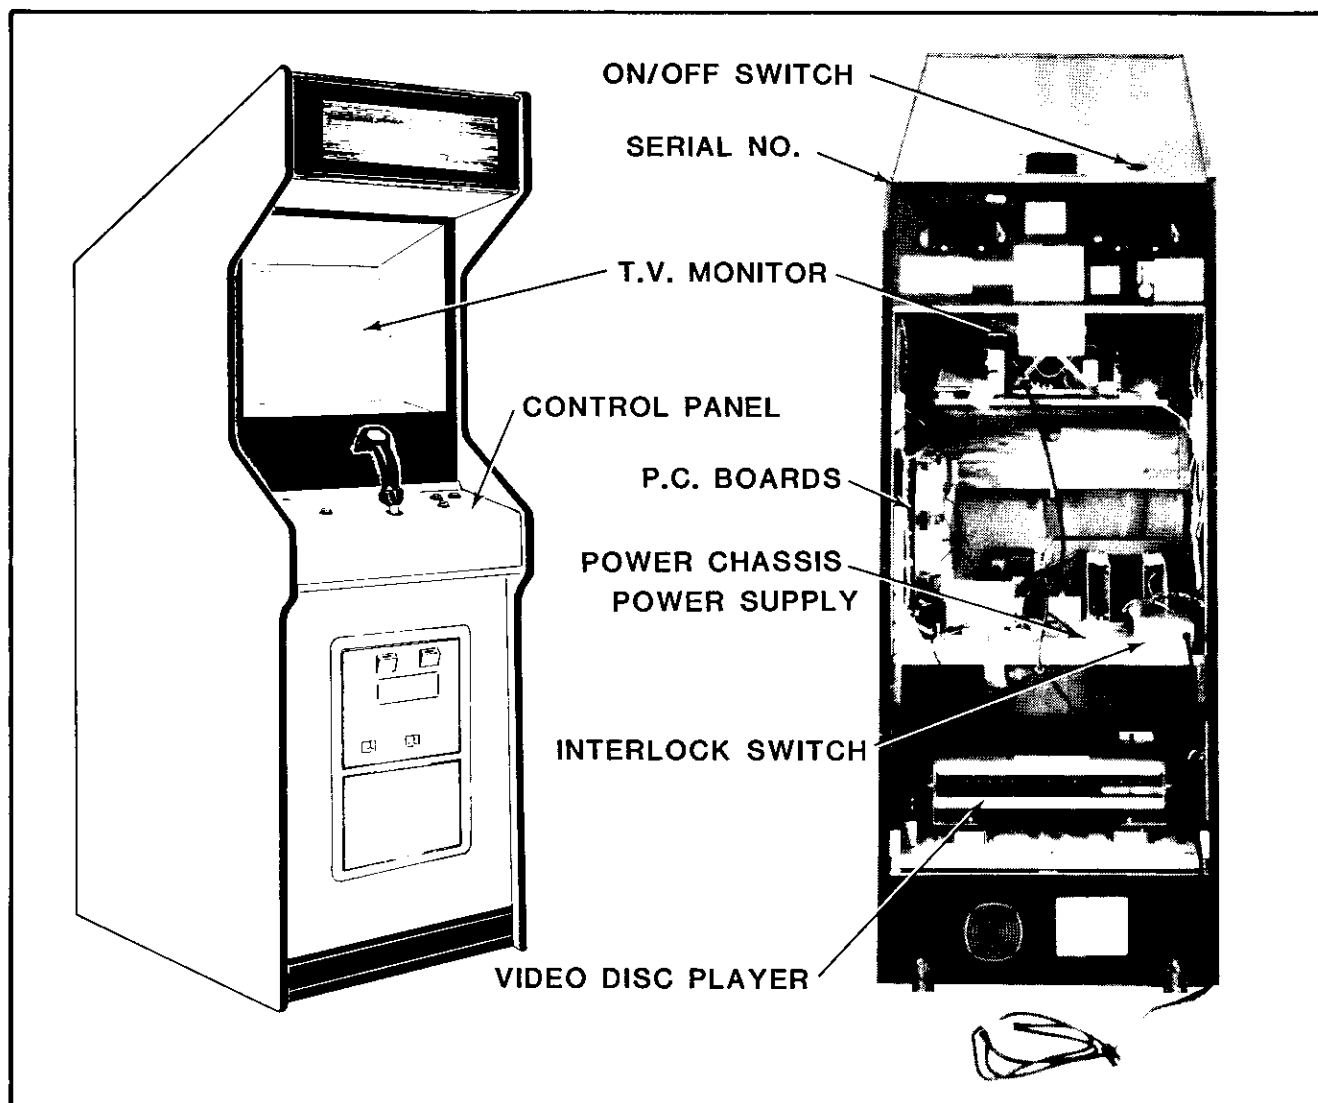

Figure 1-2 Location of Serial No., Interlock Switch, & Major Sub-Assemblies
5. Open the cabinet and inspect the inside of the game for any signs of damage. See Figure 1-2.
☐ Make sure all printed circuit boards (P.C.B.'s) are firmly seated in their connectors. See Figure 1-2. These connectors are also keyed. The P.C.B.'s will only go in to them one way
☐ Note the location of the games serial number. See Figure 1-2.
☐ Check all major subassemblies to be sure they are mounted securely. These are called out in Figure 1-2.
3. Interlock and power ON/OFF switches. See Figure 1-2.
The game ON/OFF switch is located as shown in Figure 1-2. Turn the game on and allow it to warm up a few minutes.